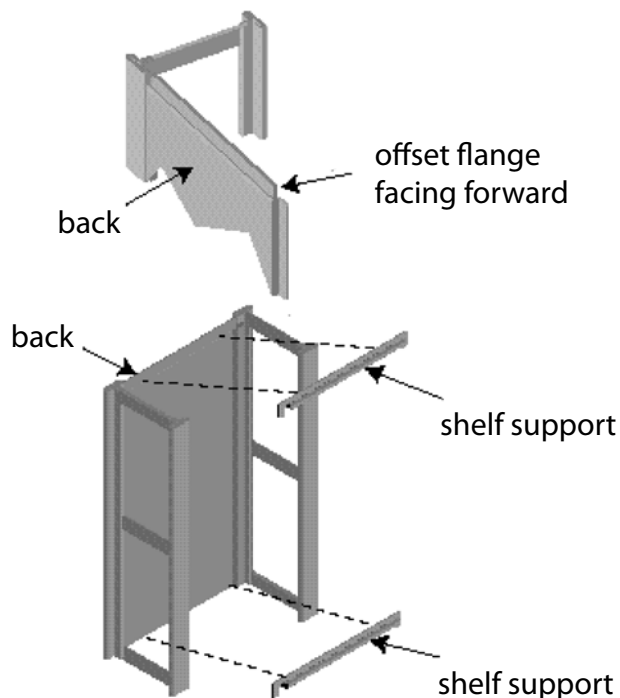

Figure 1
1. With offset flange at top of back and facing forward, place the back between the rear upright posts. Figure 1.
2. Install shelf supports in the rear upright at the top and in second and third holes from the bottom with ears facing down. This will lock the back into position between the upright posts. Figure 1.